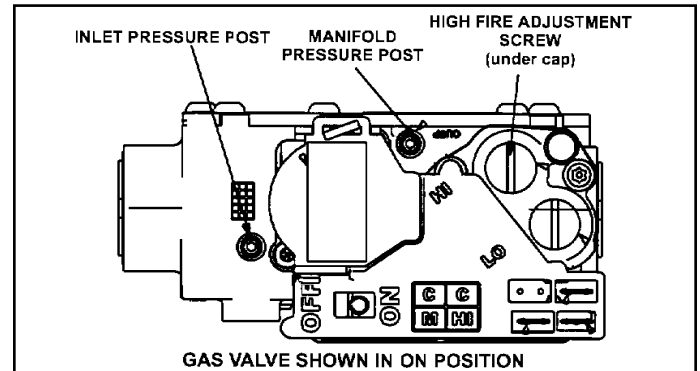

Figure 51.
6. Move gas valve switch to OFF. See Figure 51.
8. Move gas valve switch to ON. See Figure 51.
An inlet post located on the gas valve provides access to the supply pressure. See Figure 51. Back out the 3/32 hex screw one turn, connect a piece of 5/16 tubing and connect to a manometer to measure supply pressure. See Table 26 for supply line pressure.
A manifold pressure post located on the gas valve provides access to the manifold pressure. See Figure 51. Back out the 3/32 hex screw one turn, connect a piece of 5/16 tubing and connect to a manometer to measure manifold pressure.
5. If necessary, make adjustments. Figure 51 shows location of high fire and low fire adjustment screws.